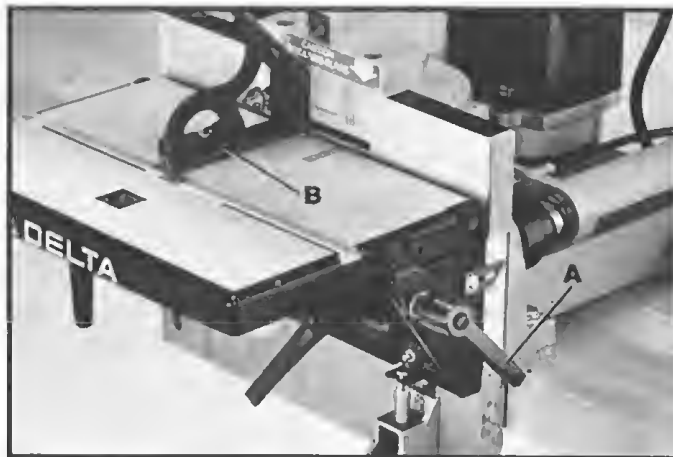

Fig. 23
1. Loosen table lock handle (A) Fig. 23, make sure the table is all the way down and tighten lock handle (A).
2. Using a square (B) Fig. 23, check to see if the table is 90 degrees to the fence, as shown.